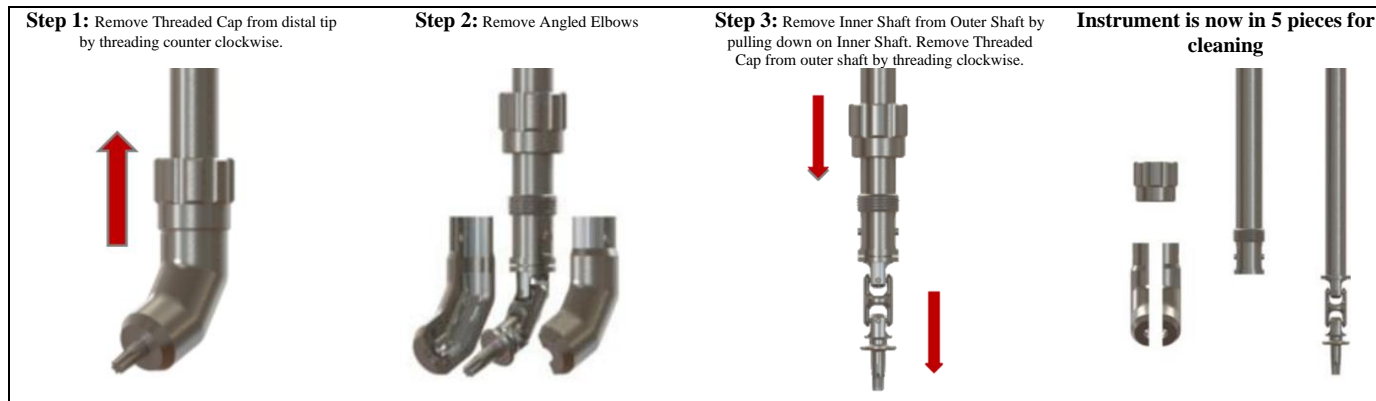

Figure 1: (Dis)assembly instructions for Angled Driver Assembly
- Pre-Cleaning:** Disassemble devices where applicable. The majority of the surgical instruments and trial devices are simply constructed and will not require disassembly. However, some of the more complex instruments are made of several components and these should be disassembled into their individual parts. Figure 1 provides detailed instructions on the disassembly of the Angled Driver Assembly (P/N 2128-001-071).
- Rinsing:** Thoroughly rinse the devices with purified water for a minimum of 2 minutes. Use a syringe, pipette or water jet to flush lumens/cannula/channels/holes. Articulate devices with moving parts under running water in order to rinse thoroughly. Repeat rinsing a total of three (3) times.